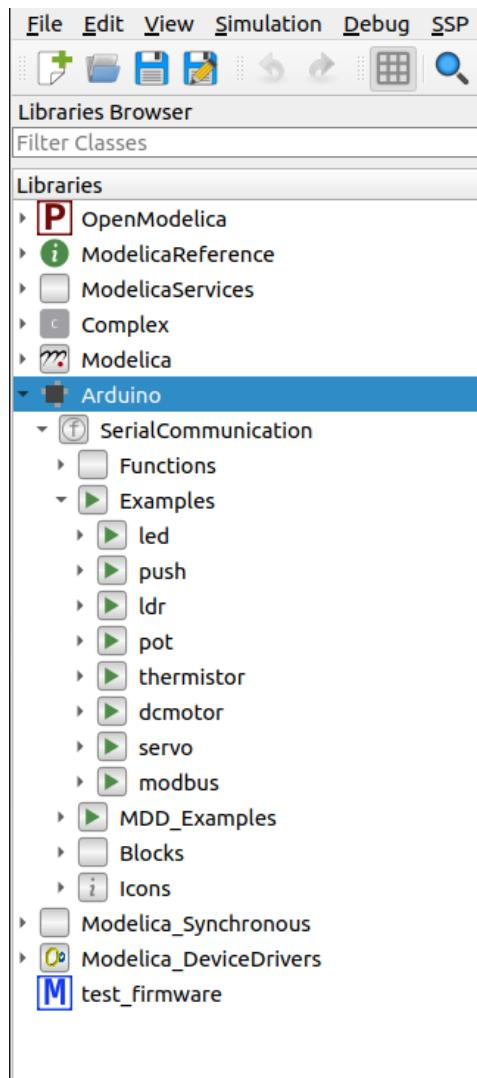

Figure 3.42: Examples provided in the OpenModelica-Arduino toolbox
5. Now, we will locate the models for running the experiments in the upcoming chapters. Under Libraries Browser, click on the arrow before Arduino to see the contents inside this package. Next go to SerialCommunication -> Examples. Under Examples, you will find the list of experiments like led, push, etc., as shown in Fig. 3.42.